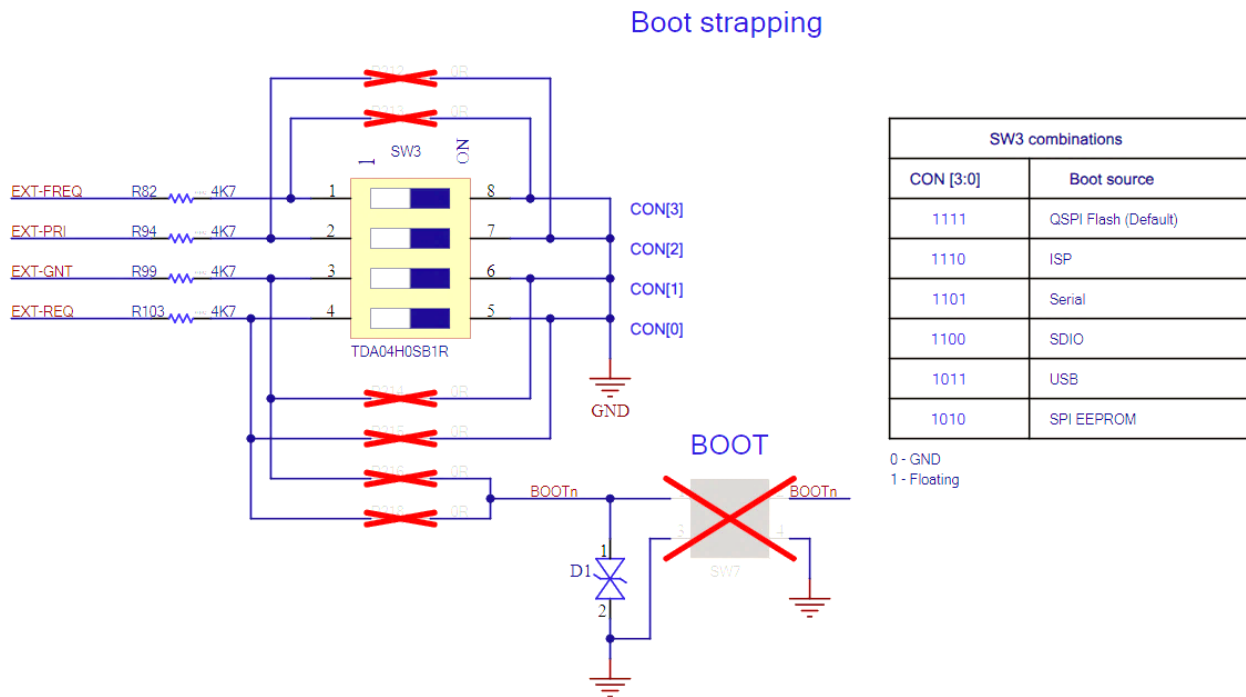

Figure 12: Bootloader schematic
Figure 12 shows bootloader configuration and the boot sources available to user. Several signals and the DIP switch **SW3** positions determine the bootstrap method for booting the IRIS-W1 module.
- Default method: This method uses DIP switch **SW3** along with resistors **R82**, **R94**, **R99**, and **R103**. Four active-high signals (**EXT-FREQ**, **EXT-PRI**, **EXT-GNT**, **EXT-REQ**) are used to select the boot source. These signals correspond to the logic states for **CON3**, **CON2**, **CON1**, and **CON0**, respectively, as shown in Figure 12. For example, to select ISP as boot source, GND the signal **EXT-REQ** on **SW3**. Other configurations are also possible.